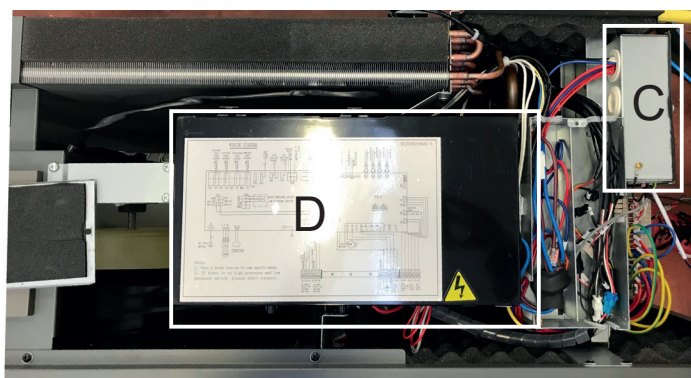

Figure 9-7 Remove the electrical box cover
- 2.- Remove electrical box covers "C" and "D" (Figure 9-7);